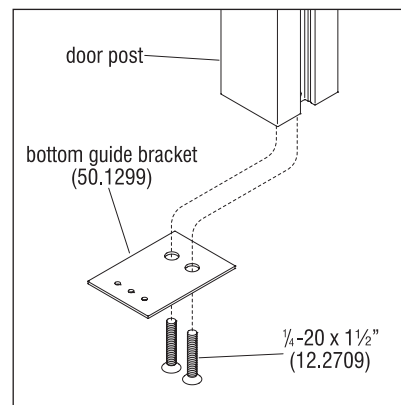

Figure 1 - Guide Bracket to Door Post Detail
43. Next, measure from the bottom of the cutout to the floor and cut the remaining section of the seal to that length. Slide seal into the slot of the strike post from the bottom of cutout to the floor (Figure 1 & Detail E).